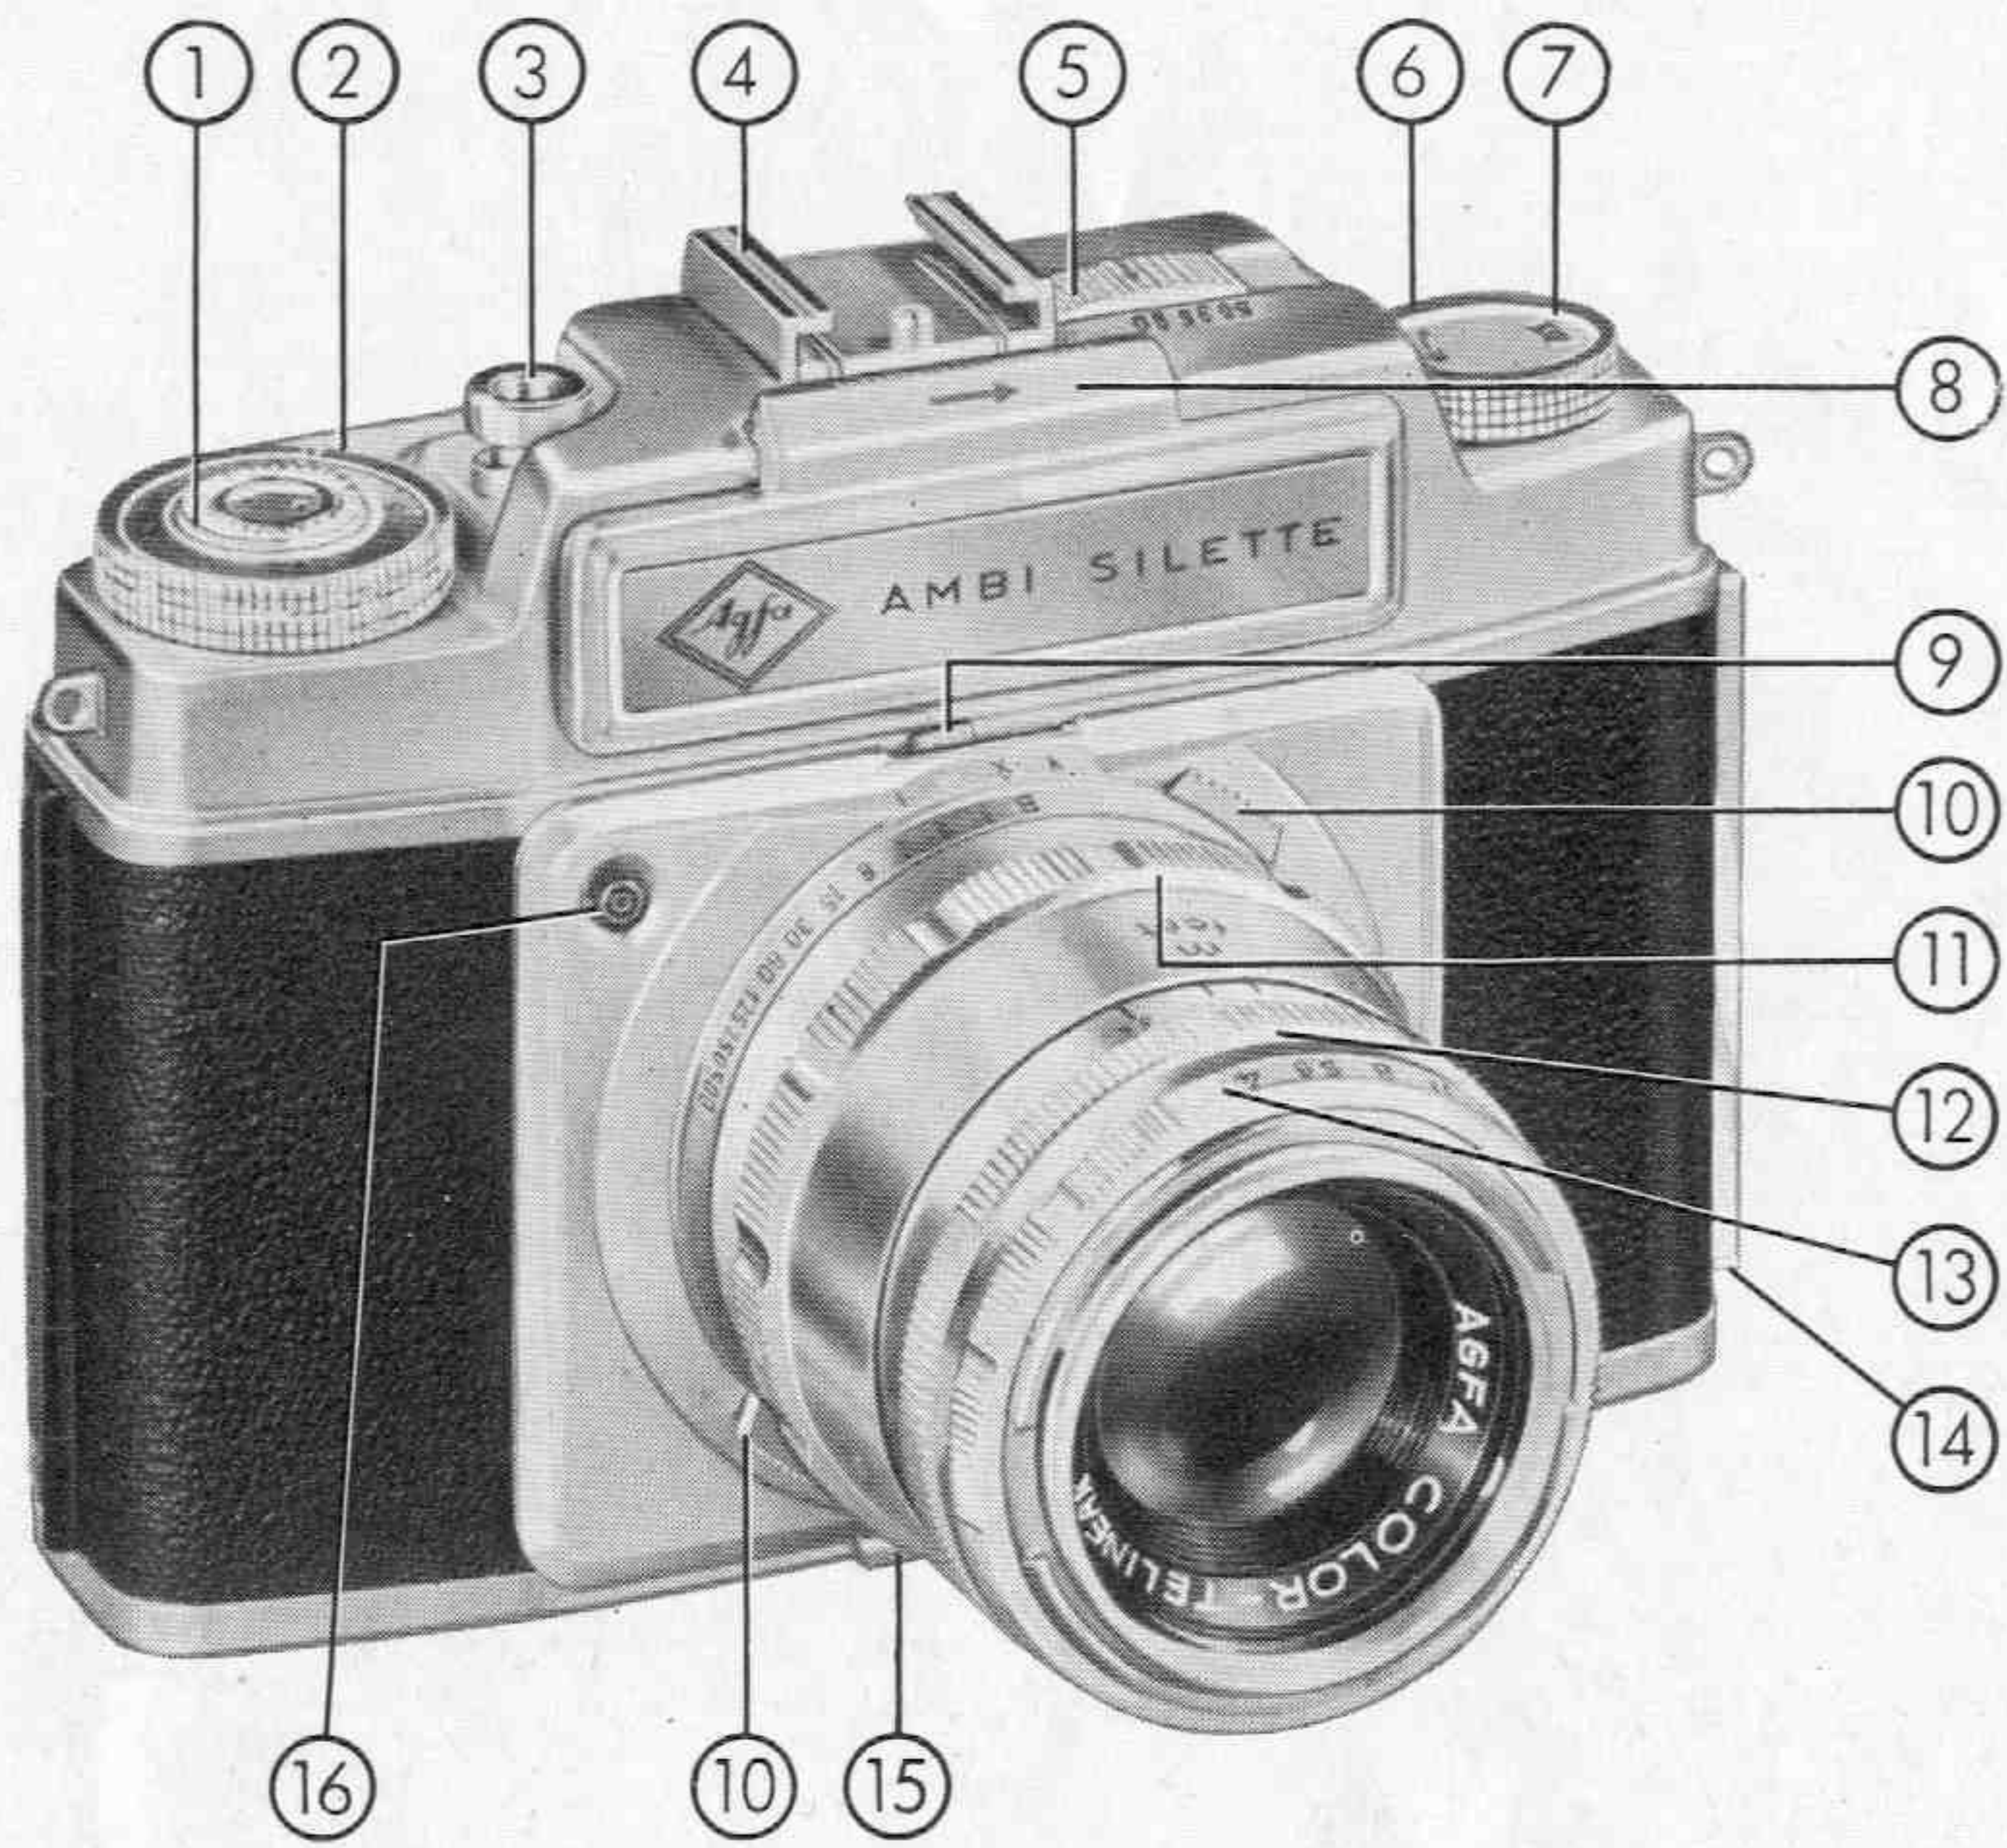
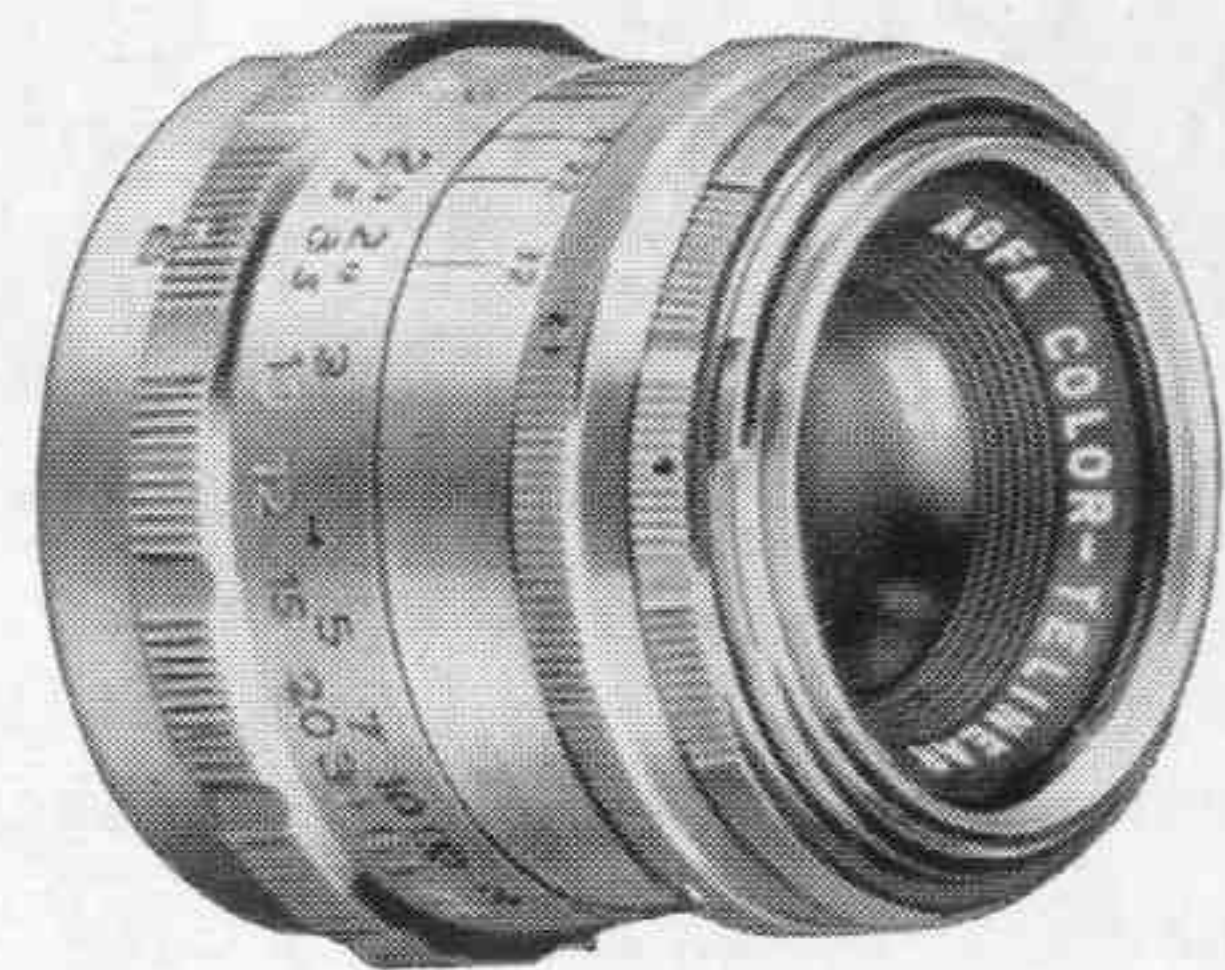
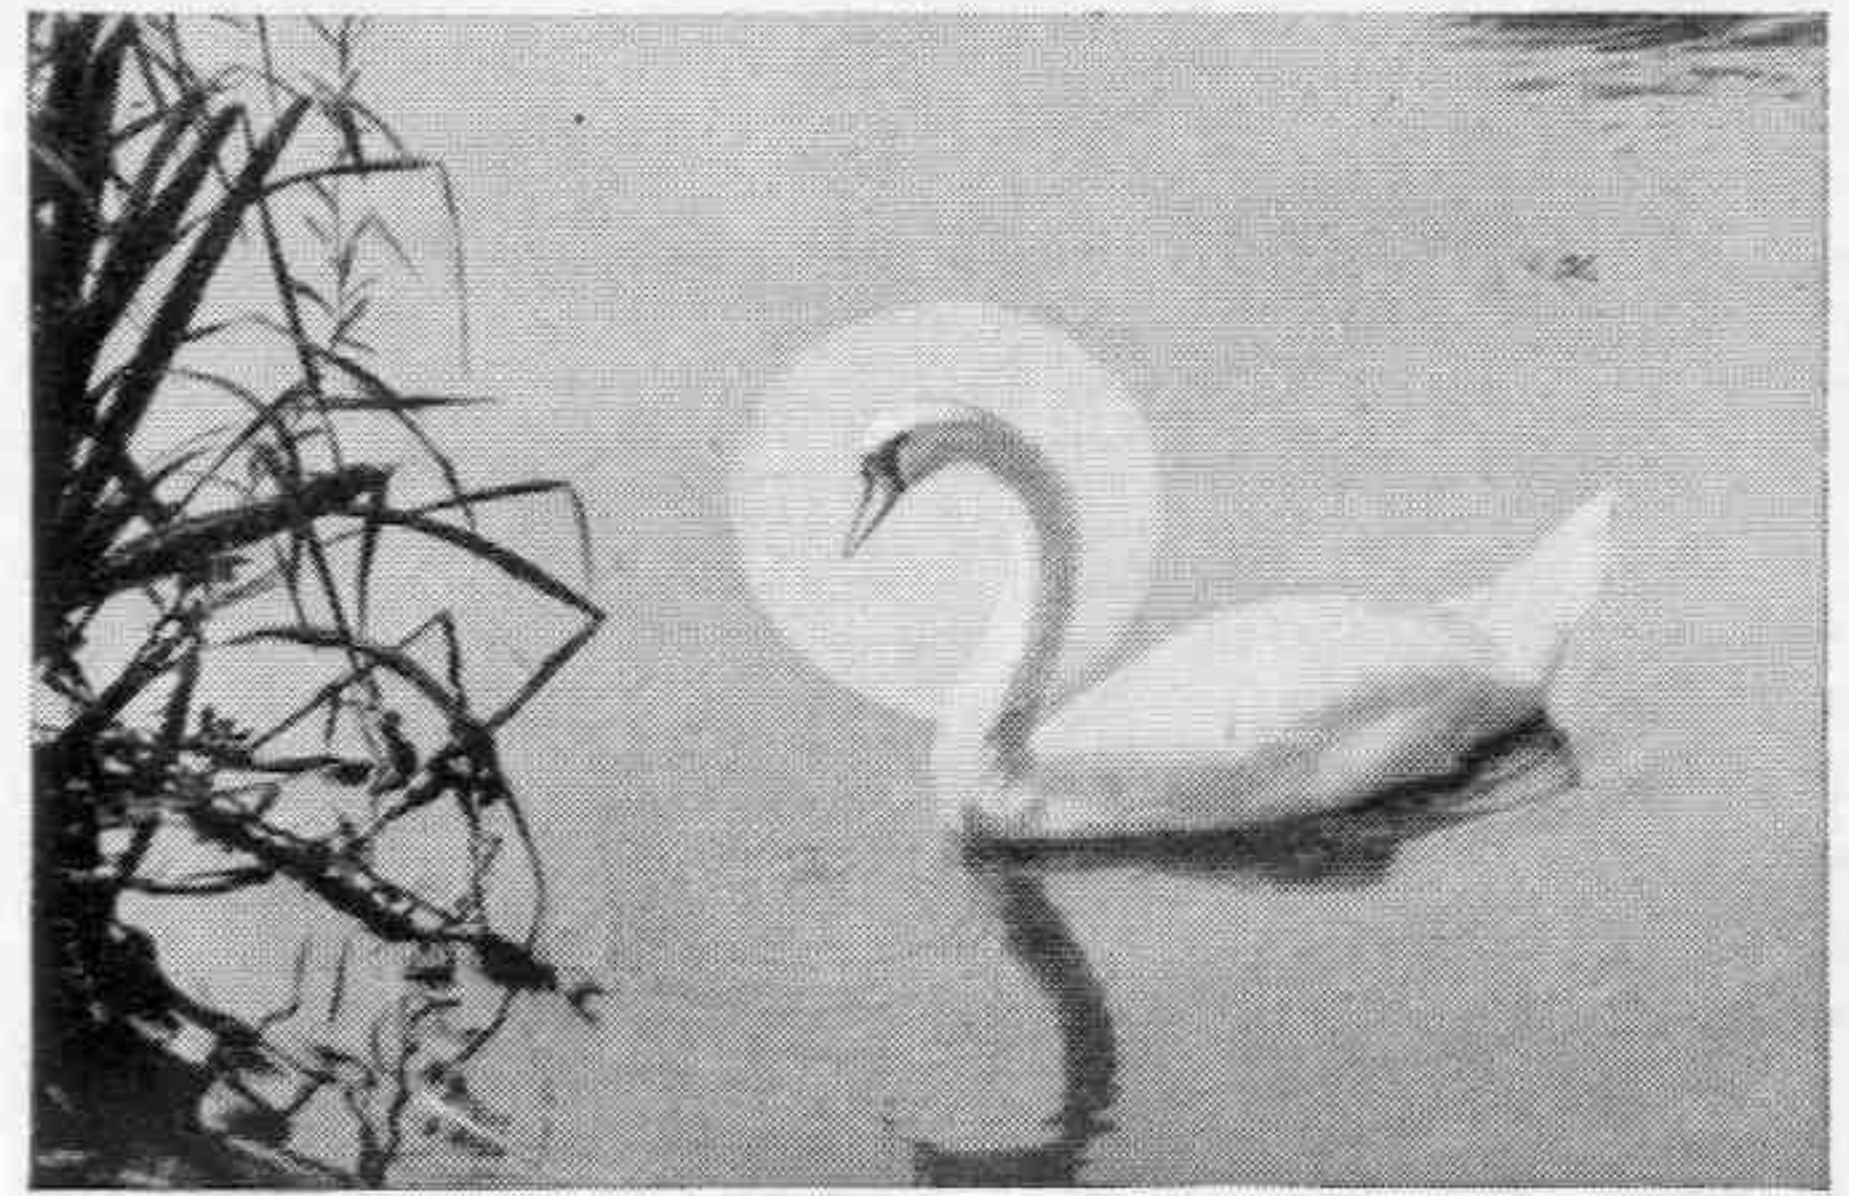

Fig. 1
Fig. 7
Fig. 10
A loaded camera should never be left for any length of time exposed to light without its lens. In changing the lens, therefore, do it as quickly as possible and always in the shadow of the body, so that no direct light reaches the unprotected shutter. To remove the lens from its mount, press the catch (see short arrow, Fig. 2) at the same time giving the lens a small turn to the left. In doing so, the lens should always be gripped, as shown, by the fixed milled ring ⑫ (Fig. 1) behind the diaphragm ring. The lens is then simply lifted out while a certain amount of resistance has to be overcome.
When the protecting cover has been opened by pressing it in the direction of the arrow, on looking into the large, brilliant viewfinder of the Ambi Silette the fields of view for the three focal lengths, 35, 50, and 90 mm., will be seen indicated by reflected frames. As already mentioned, these frames can be selected by means of a small slide ⑤ (Fig. 1) on top of the camera, regardless of which lens may be in the camera at the time. This enables the user to examine the subject successively as limited by the respective fields of view, and so to decide which focal length will be most suitable. The accompanying diagram (Fig. 7) indicates which reflected frame corresponds to each position of the slide. It should be noted that the corners of the largest frame (corresponding to the 35 mm. wide angle lens) remain visible even when the frame for the standard 50 mm. lens is reflected; this frame is emphasized by specially thick lines.
If the milled focusing ring ⑪ (Fig. 1) is now moved with the index, or better still, with the middle fingers of both hands (see Fig. 8), the overlapping images in the centre will approach one another and at one position will completely coincide (Fig. 10).